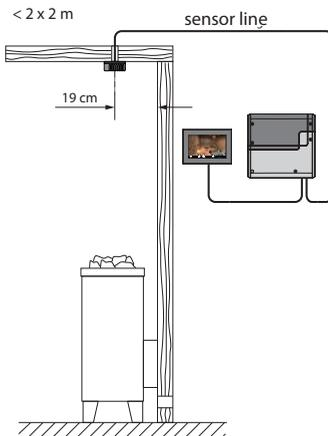
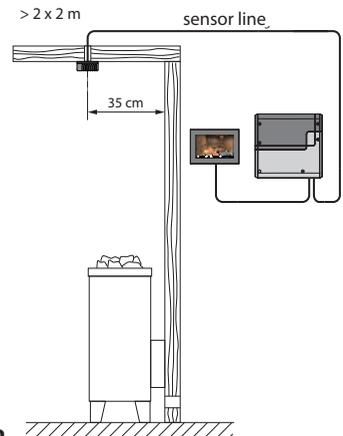

Fig. 11
Fig. 12
1. Mount the heater sensor in cabins up to 2 x 2 m according to fig. 11, in larger cabins according to fig. 12.